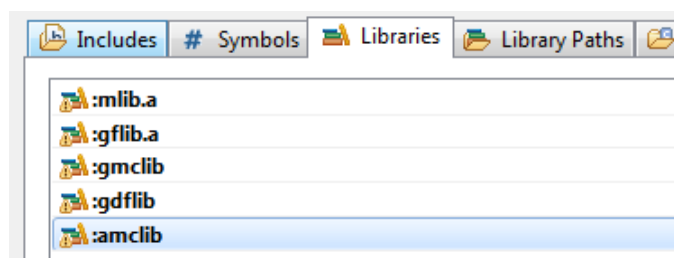

Figure 1-22. Libraries
15. After adding the library paths, add the library files. Click the Libraries tab. See Figure 1-22.
26. Click OK, and you will see the libraries added in the list. See Figure 1-22.